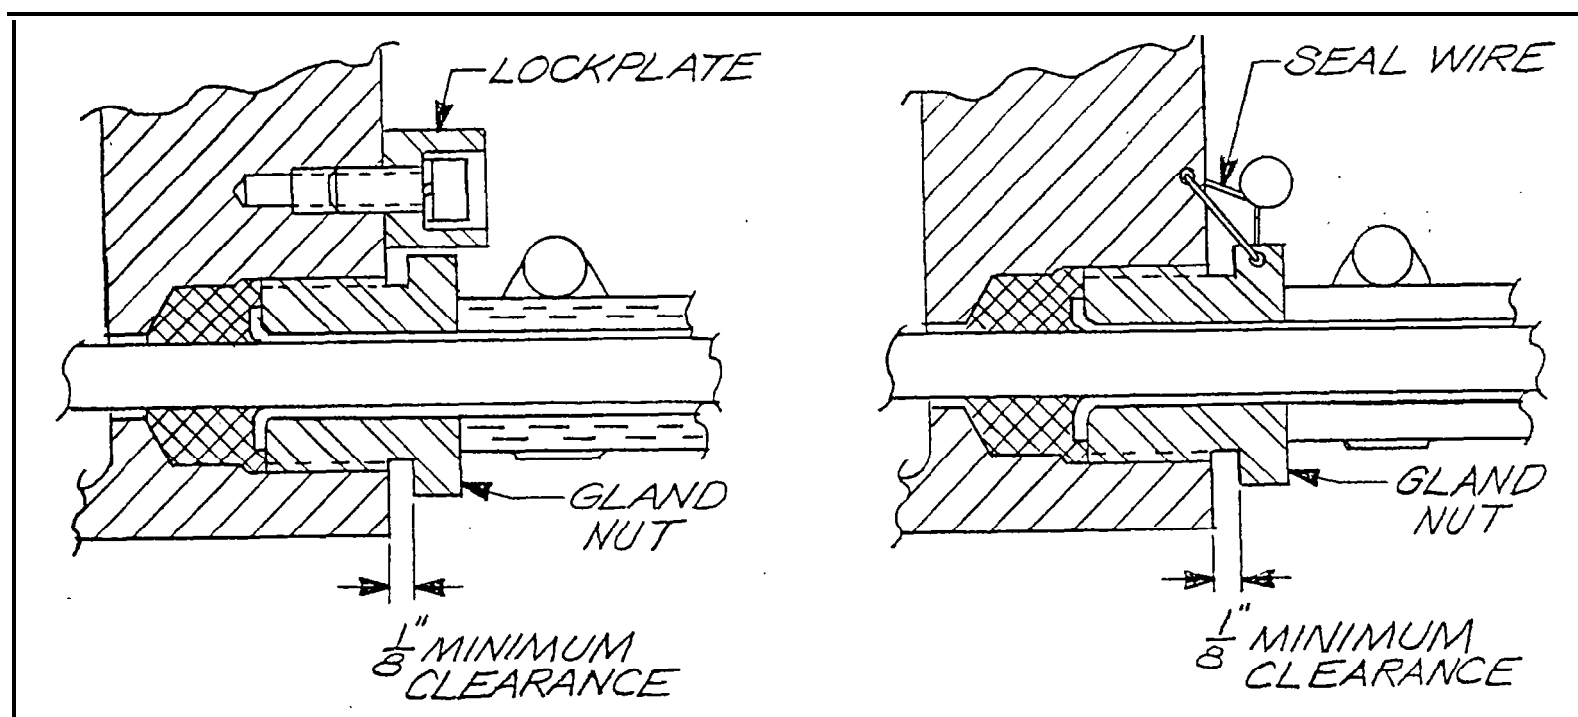
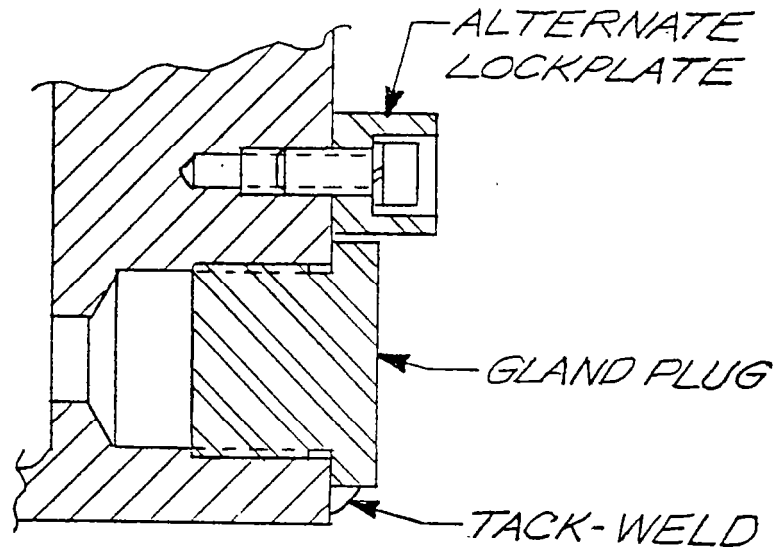

Figure 3
FIGURE 4
(WEEKLY) 1. () All lead entrances (packing glands) are assembled so that the cable jack penetrates into the enclosure and when tightened, a 1/8" minimum clearance remains between the packing nut and stuffing box (Figure 3).
(WEEKLY) 2. () All packing nuts and stuffing boxes are secured from loosening by a locking screw, wire, or other means (Figure 3). All unused lead entrances are closed with metal plugs which are secured in place by spot welding, brazing, or equivalent (Figure 4).
- (WEEKLY) 3. () Headlight glands are sealed and assembled so that the cable jacket penetrates into the enclosure and when tightened, a 1/8" minimum clearance remains between packing nut and the stuffing box. (Figure 3)
- (WEEKLY) 4. () All unused lead entrances are closed with metal plugs which are secured in place by spot welding, brazing, or equivalent (Figure 4).
- (WEEKLY) 2. () "Alternator Housing Glands" are sealed and assembled so that the cable jacket penetrates into the enclosure and when tightened, a 1/8" minimum clearance remains between packing nut and the stuffing box. (Figure 3)